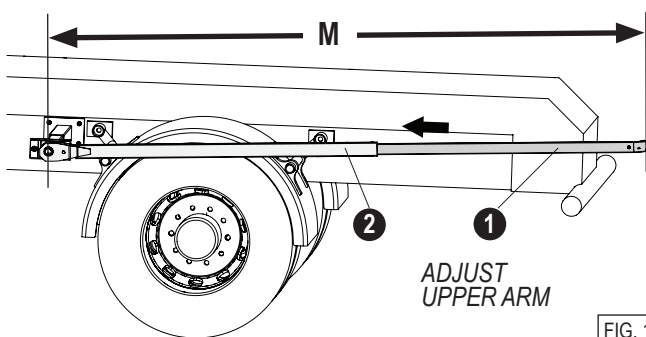

FIG. 106
- Position the **lower arm (2)** toward the rear of the trailer as shown in Figure 106. Prop arms up for ease of installation. Insert the **upper arm (1)** into the lower arm.